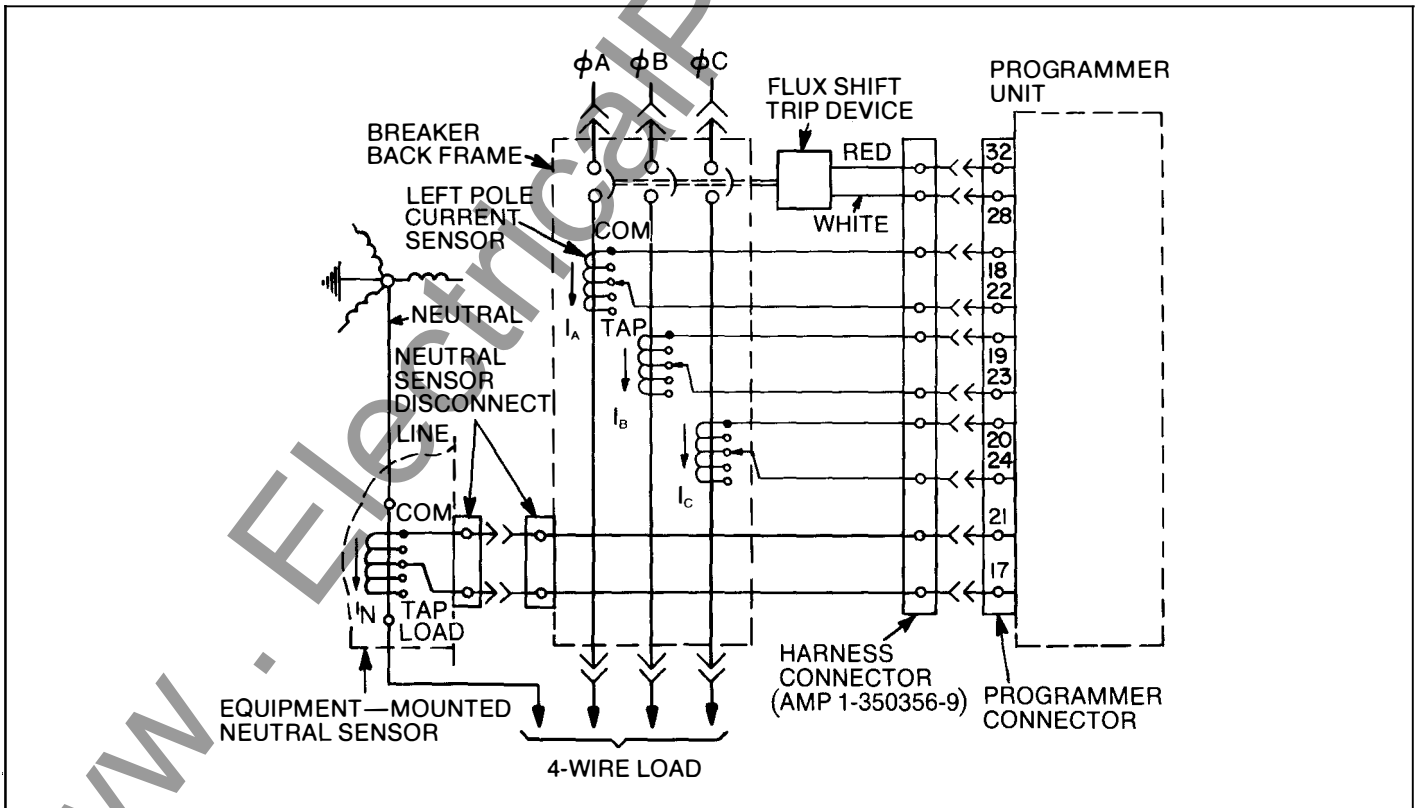

Fig. 6-3. Cabling diagram — MicroVersaTrip™ with ground fault on 4-wire load
4. On Ground Fault breakers serving four-wire loads, check that the neutral sensor is properly connected. See cabling diagram Fig. 6-3. In particular, the following: